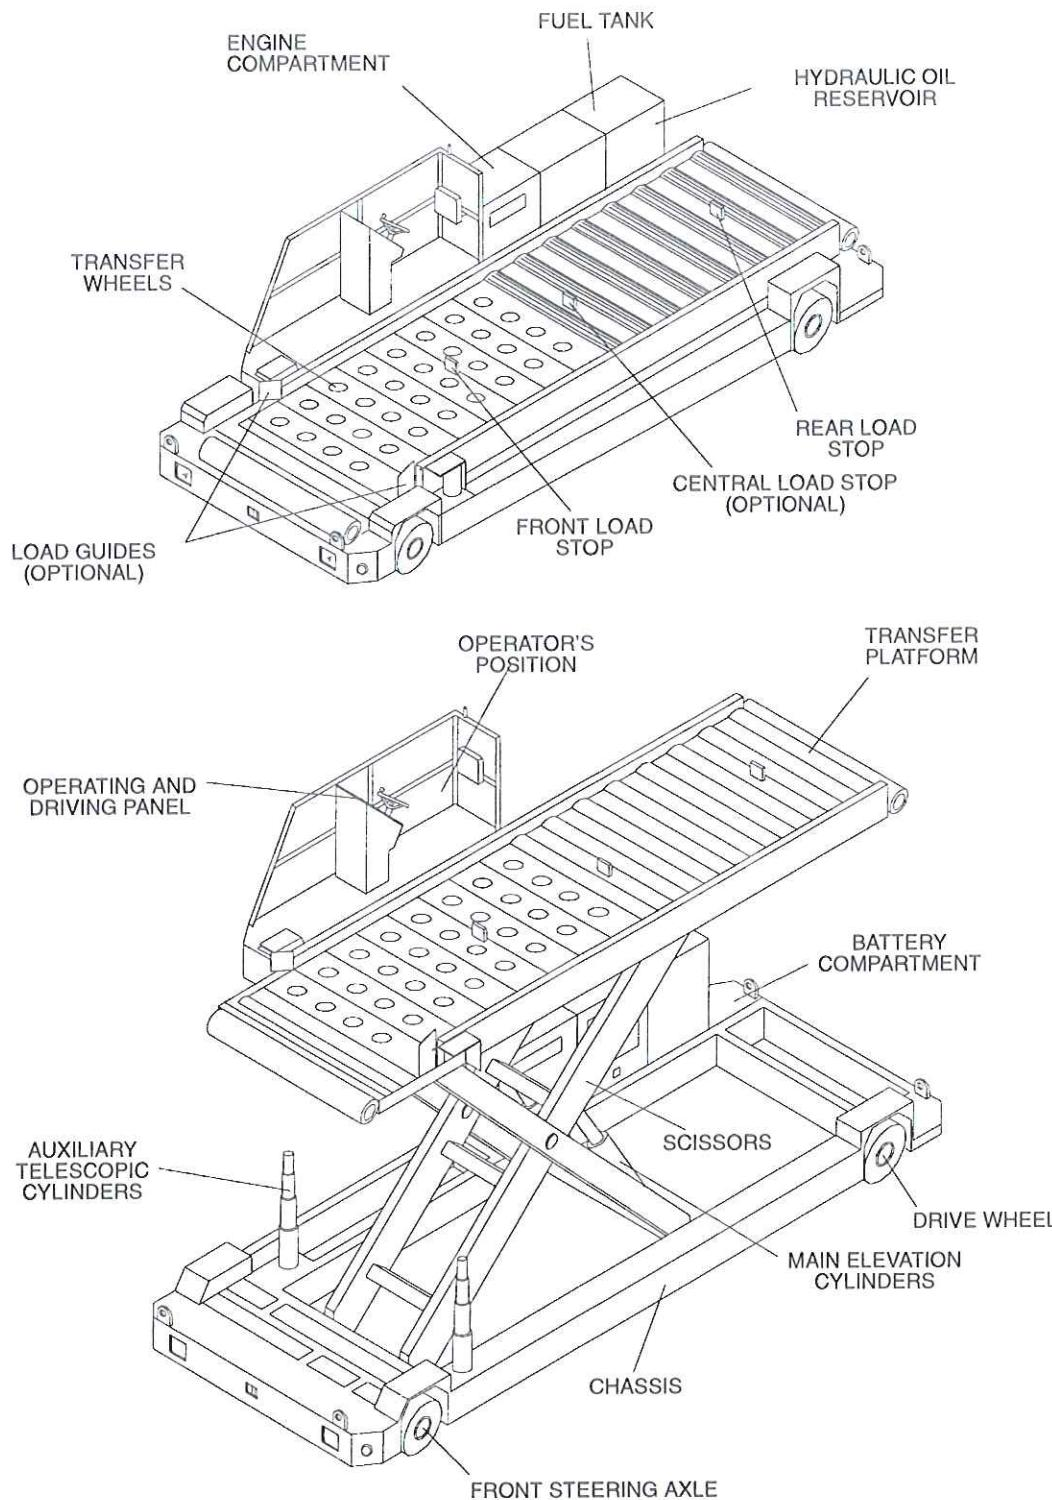

Figure 1
1. GENERAL INFORMATION (SEE FIGURE 1)